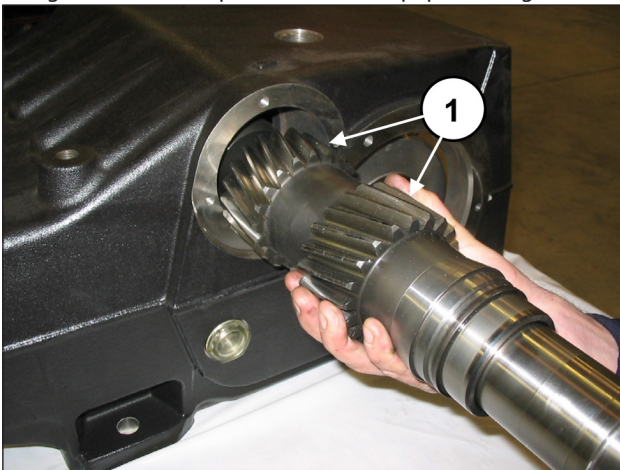

Fig. 56
Insert the pre-assembled PTO shaft into the casing (pos. ①, Fig. 56). Insert it from the other side to the side where the external bearing ring and the bearing lubrication bush were inserted.
The PTO shaft must be inserted into the casing so that the teeth are oriented as shown in Fig. 56.